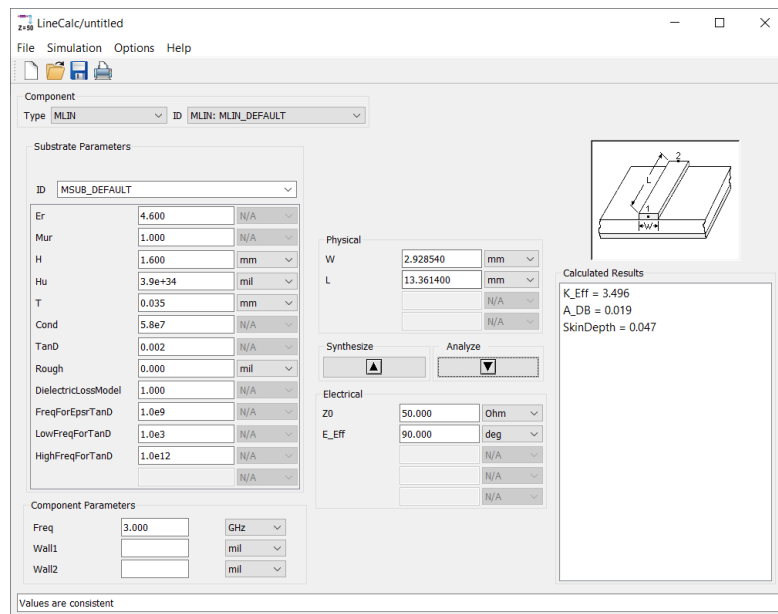

Figure 3. LineCalc results for 50  $\Omega$  lines
2. Use LineCalc to determine the length and width of the 50  $\Omega$  ( $Z_0$ ) and 70.7  $\Omega$  ( $\sqrt{2} Z_0$ ) lines. The LineCalc windows are shown in Figures 3 and 4.